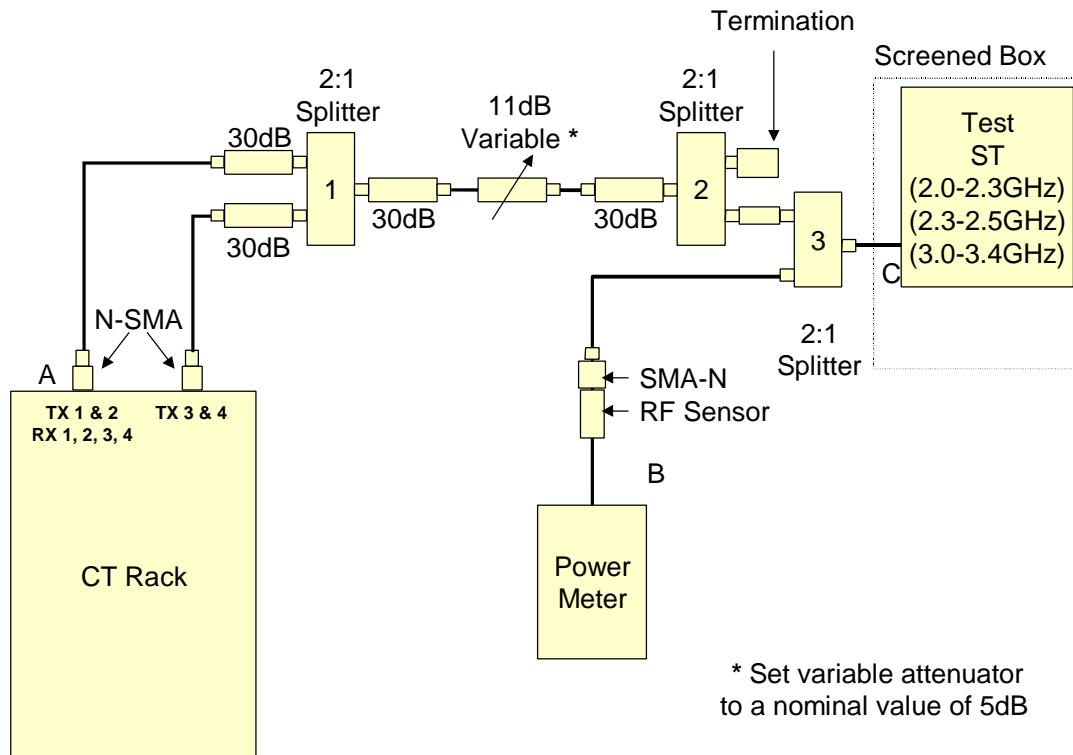

Figure 34. Test Set-up 2.0-2.3GHz, 3.4-3.6GHz, and 2.3-2.5GHz Bands.
1. To set the receive sensitivity, first set up a test network for the Band under test as shown in Figure 34 and Figure 35 below. The Figures below show the test equipment connected directly to the outputs of the DIP/LNA and TX filter as would be the case for systems without coupler.